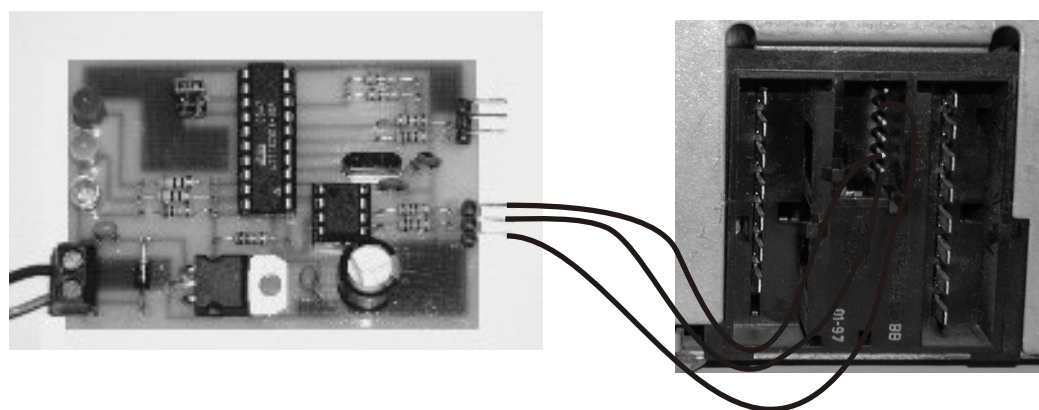

Figure 4
- Connect the E-13 to car radio according with Figure 4